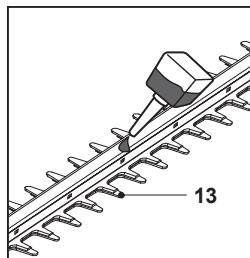

Fig. 11
10. Lubricate the internal surfaces of the blade if the cutting device (blade) (13) overheats during operation (Fig. 11).
1. Keep the cutting device (blade) (13) clean and free of debris. Remove trimmings with a brush.
2. Apply a small amount of suitable lubricant on the cutting device (blade) to retain a good cutting performance (Fig. 11).